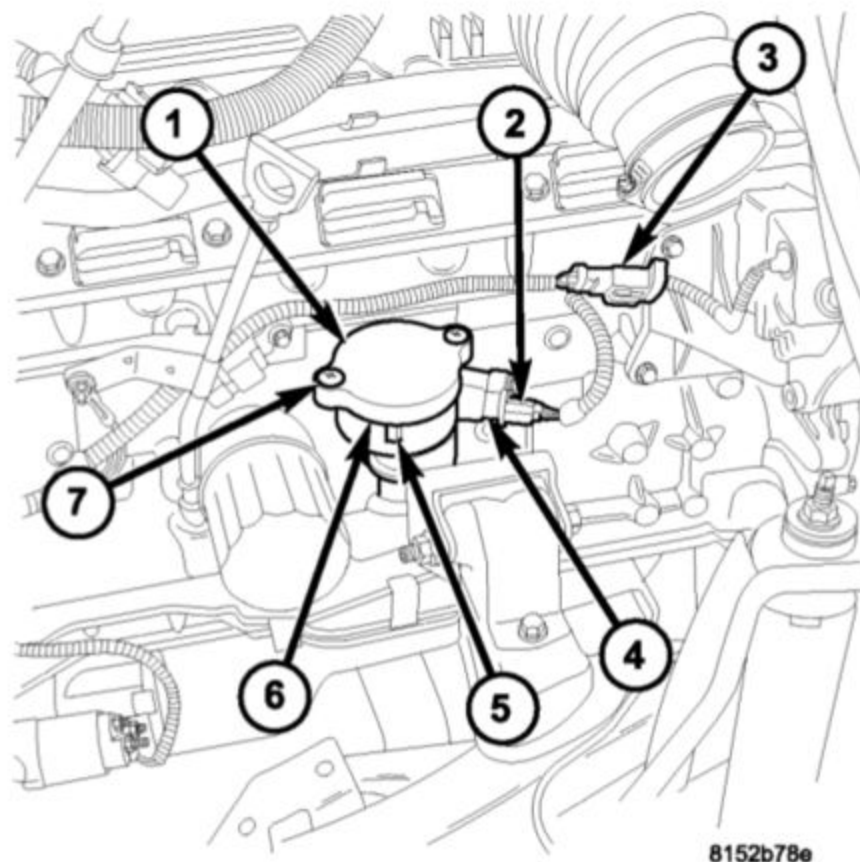

Fig. 11 4.0L CMP LOCATION ('05)
The CMP (Camshaft Position Sensor) sensor (2) (Fig. 11) is bolted to the side of the oil pump drive assembly (5). The assembly is located on the right side of the engine near the oil filter (Fig. 11).